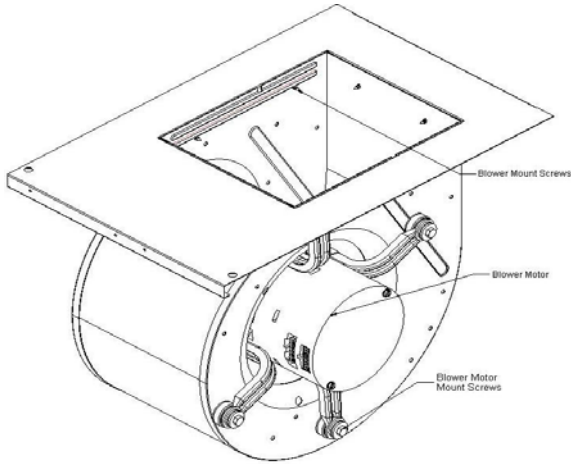

Figure 19: Blower Assembly and Blower Deck
4. Remove the two screws on the right side and the two screws on the left side of the blower mounting plate. Refer to Figure 19 for screw locations.
- 4 Remove the two screws on the right side and the two screws on the left side of the blower mounting plate. Refer to Figure 19 for screw locations.
- 7 Remove the blower motor from the blower housing by removing the three (3) screws on the sides of the housing that secure the blower to the housing
- 8 Place the motor into the housing so the mount leg holes line up with the rivet nuts in the housing. Place the three (3) screws into the mount leg holes and tighten until the mount legs are securely fastened to the housing.